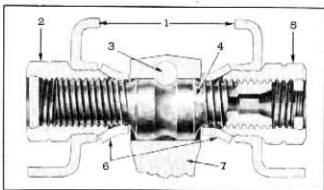

Fig. 22—Upper Control Arm Pivot Pin and Bushings
- Remove pivot pin front and rear threaded bushings from upper control arm. The upper control arm and pivot pin in cross section is shown in figure 22.